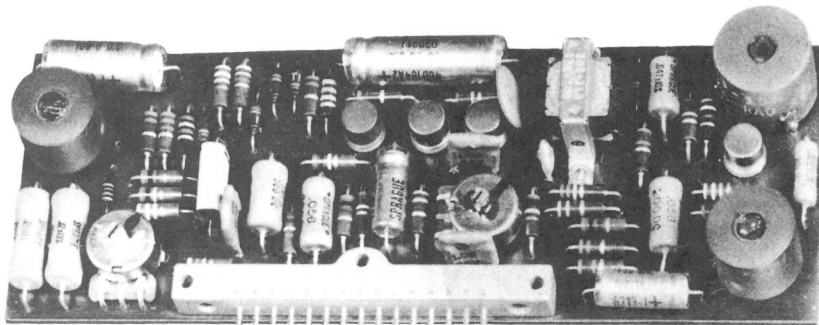

Fig. 7—KS-19245, List 4 Amplifier
- (c) The KS-19245, List 4 Amplifier (Fig. 7) is a printed circuit wiring board transistor amplifier for recording and reproducing. The amplifier incorporates an automatic volume control feature. It also contains the 1400-cycle oscillator and notch rejection filter.